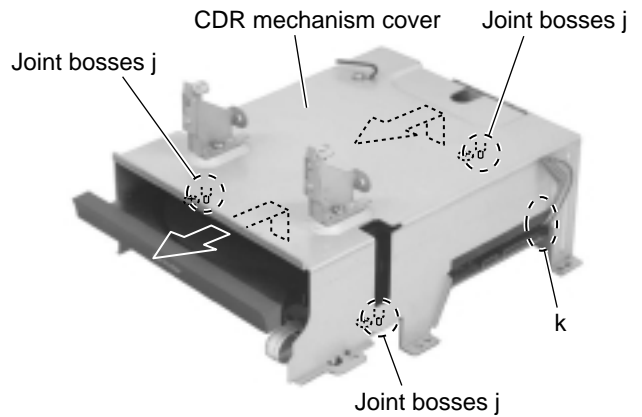

Fig.26
**CAUTION:** When reassembling, set the wire extending from the rear of the CDR mechanism board on the side of the CDR mechanism cover (marked **k**) as shown in Fig.26 before reattaching the CDR mechanism assembly.
CAUTION: When reassembling, set the wire extending from the back of the CDR mechanism board on the side of the CDR mechanism cover (marked **k**) as shown in Fig.26 before reattaching the CDR mechanism assembly.